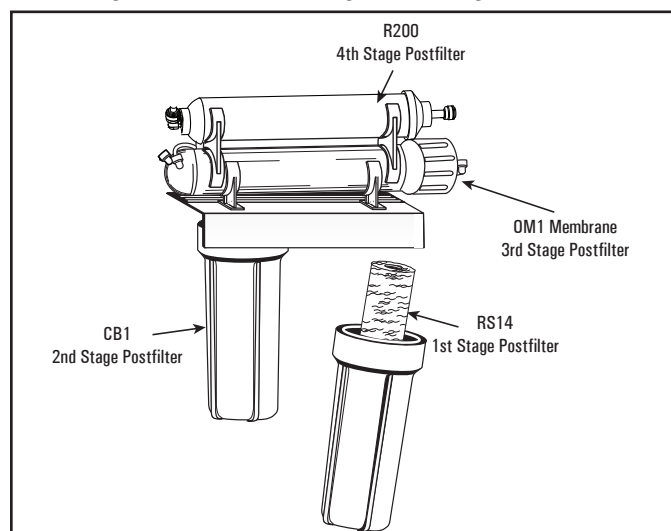

Figure 10
**NOTE:** Be sure to install cartridges in proper housings (see Figure 10).